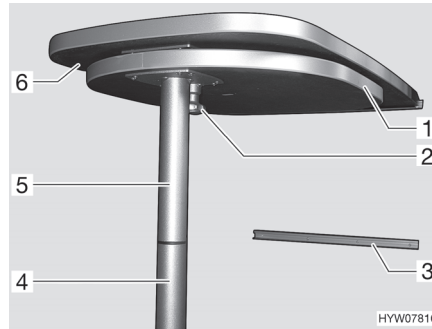

Fig. 83 Suspension table with separable support leg
- Pull the knob (Fig. 83,2) of the lock down and swing out the table top extension (Fig. 83,1).
- Swing the table top extension (Fig. 83,1) under the table top (Fig. 83,6) until the lock latches in place audibly.
- Lift the front of the table top (Fig. 83,6) by approx. 45°.
- Pull out the lower part of the support leg (Fig. 83,4) down and lay aside.
- Hook the table top at a 45° angle to the supports into the lower retainer (Fig. 83,3) and place on the floor with the upper part of the support leg (Fig. 83,5).